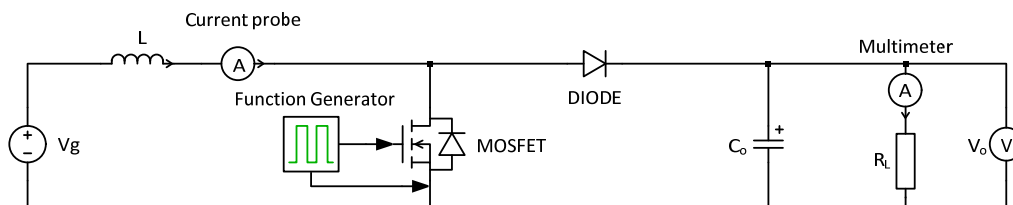

Figure 2. Boost converter
2. Build a boost converter (Figure 2.) and follow the steps:
- Connect the power supply “+” to one leg of the inductor and the “-” to the return path of the circuit (Figure 2.)
- b. Turn on the Function Generator, set it to *Square wave generator*, set the *Frequency* to **50 kHz**, set the *Amplitude* to the **MAX**, pull out the *Offset* and adjust it to the **middle**. Check the pulses on the Oscilloscope using the differential voltage probe – measure and visualize the gate pulses. The Function Generator should give a square wave between +/- 10V. With the *Duty* you can adjust the **Duty cycle (D)** if it is pulled out. Otherwise it will be **50%** by default.